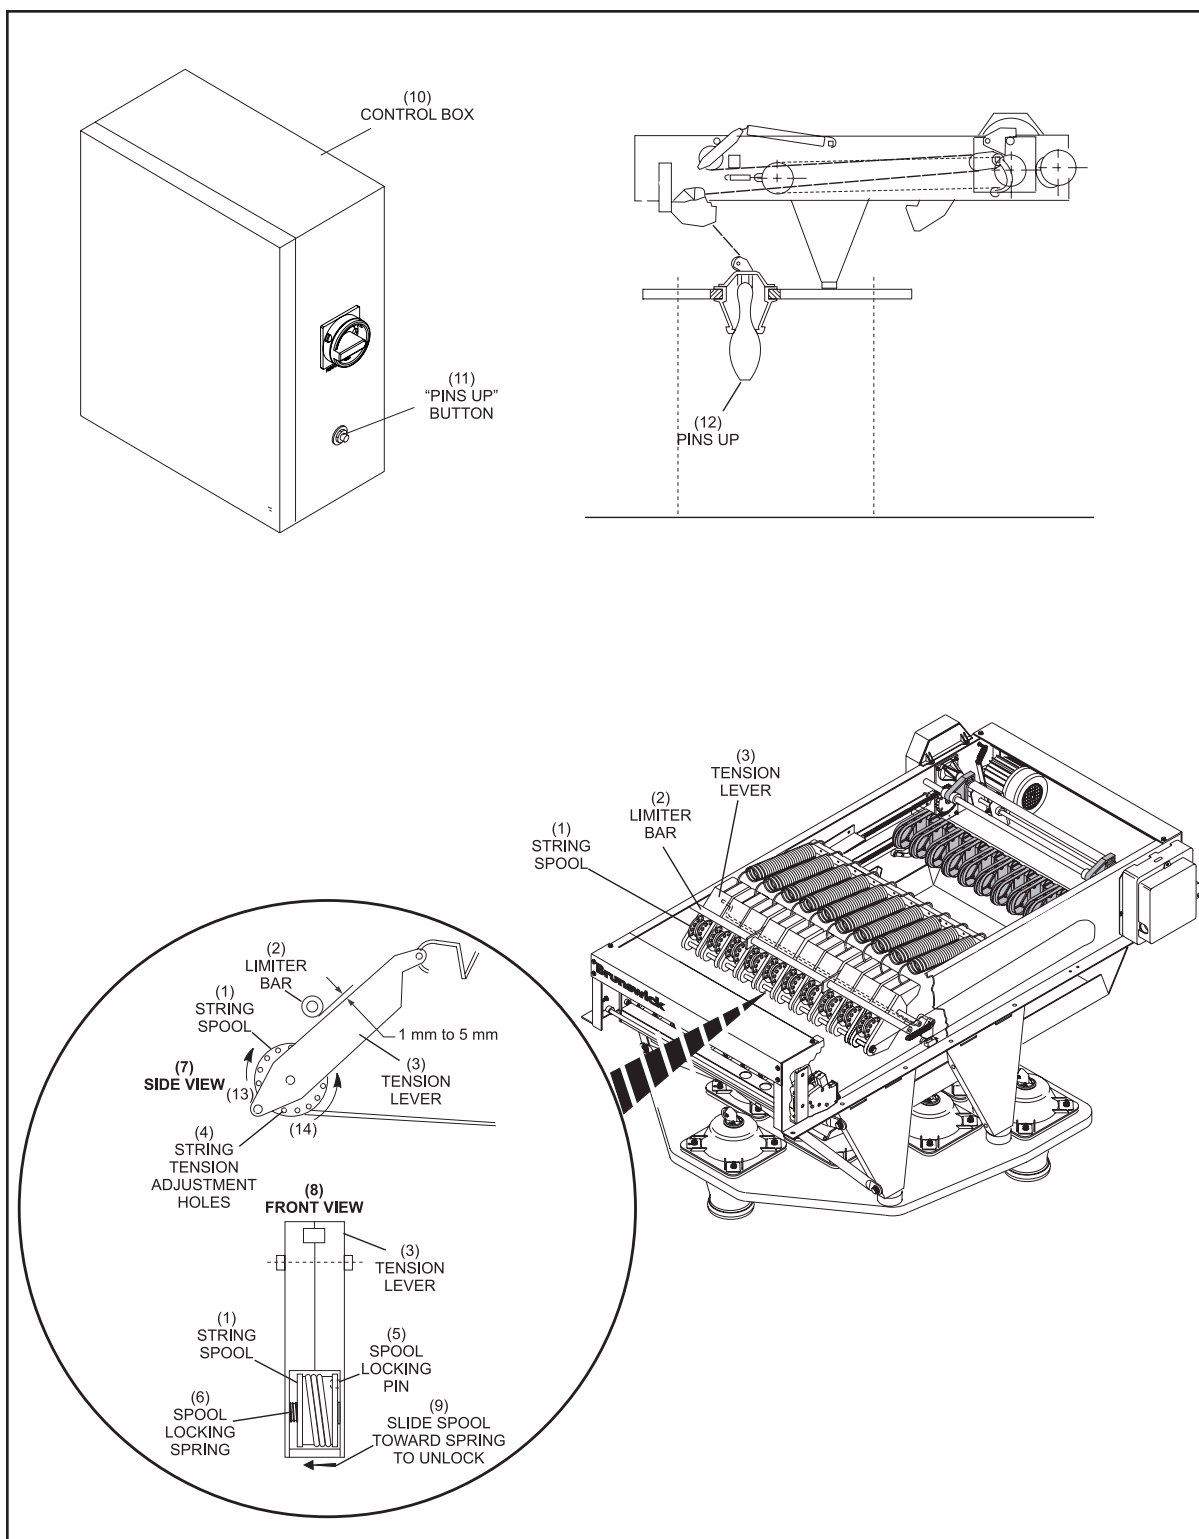

Figure 4-8. String Tension Adjustments
2. Observe the distance (gap) between the tension limiter bar the each of the ten tension levers. The should be a distance (gap) of 1 mm - 5mm between the limiter bar and the tension lever. Refer to *Figure 4-8*.
3. If the tension adjustment is required for any of the pins Refer to *Figure 4-8*;
i **NOTE:** *Rotating the spool towards the back of the machine will reduce the tension and gap. Rotating the spool toward the front of the machine will increase the tension and gap. Refer to *Figure 4-8*.*